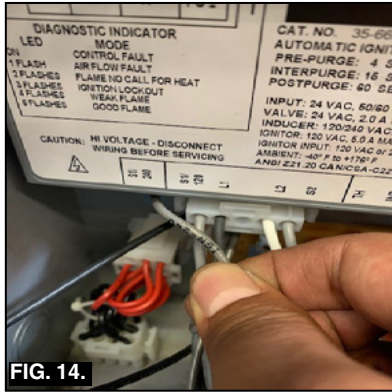

FIG. 14.
10. Connect S1/240, located on the left side of the 5-pin connector. (Fig. 14).